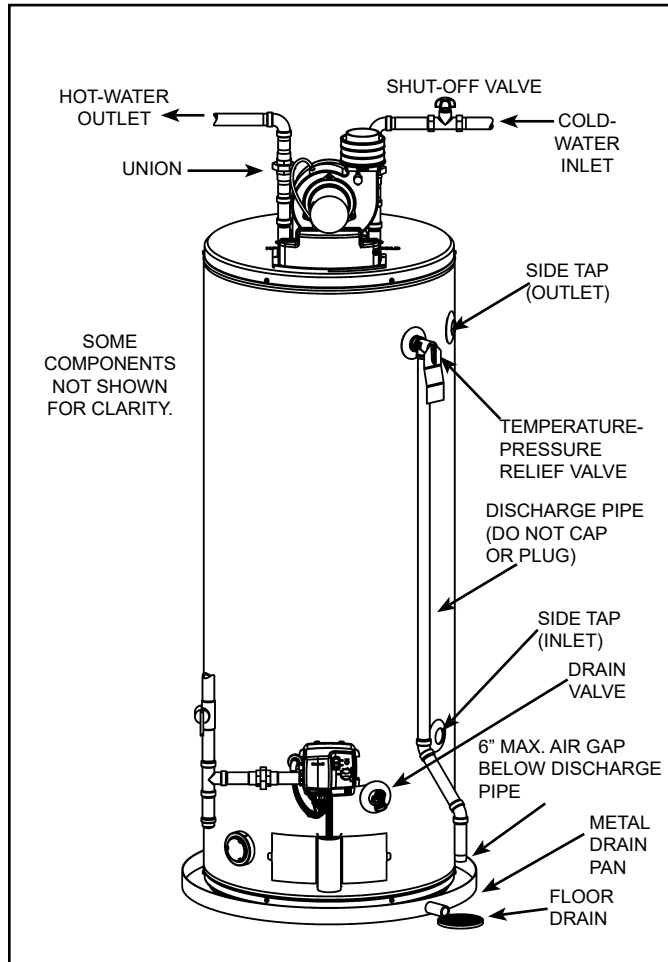

Figure 26.
1. Close the water heater drain valve by turning handle to the right (clockwise). The drain valve is on the lower front of water heater (see Figure 26).